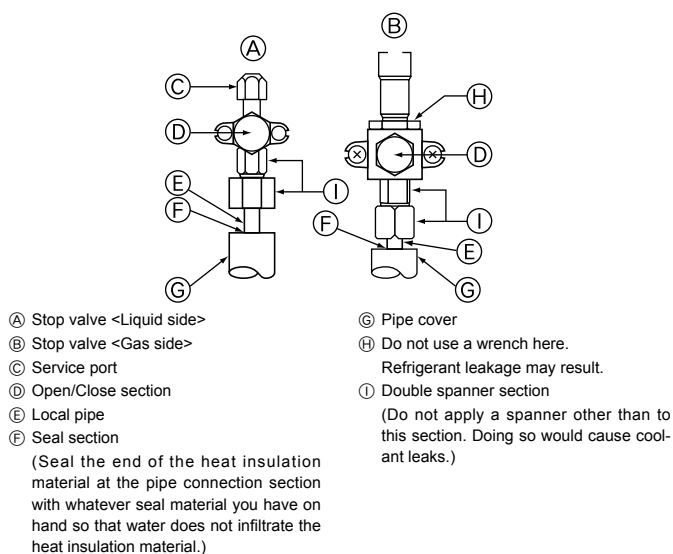

Fig. 4-5
4.4. Refrigerant pipe airtight testing method (Fig. 4-5)
- Make sure the stop valves (A) (B) are closed and do not open them.
- Add pressure to the refrigerant lines through the service port (C) of the liquid stop valve (A).
- If the pressure decreases in steps (2) or (3), there is a gas leak. Look for the source of the gas leak.